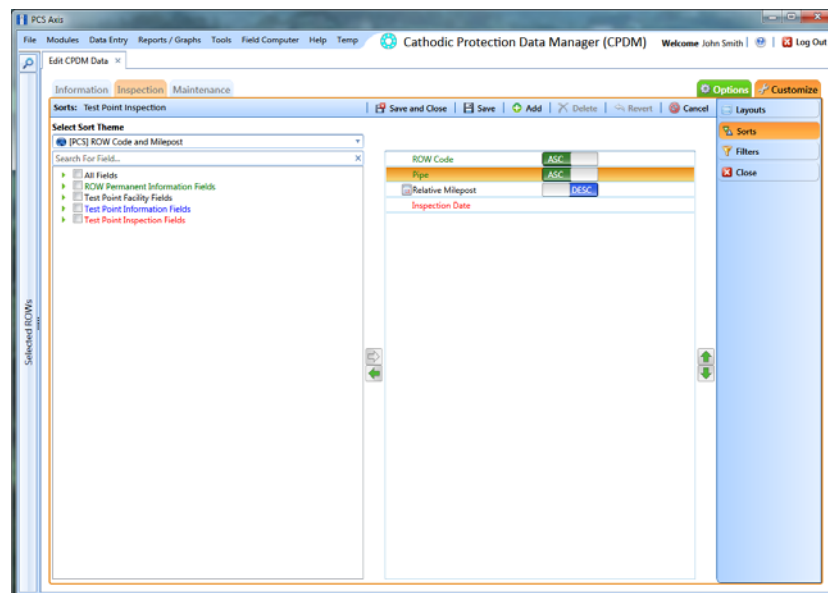

Figure 6-70. Sorts
- 5 Click the **Customize** tab  then the **Sorts** button  to open the *Sorts* page (Figure 6-70).